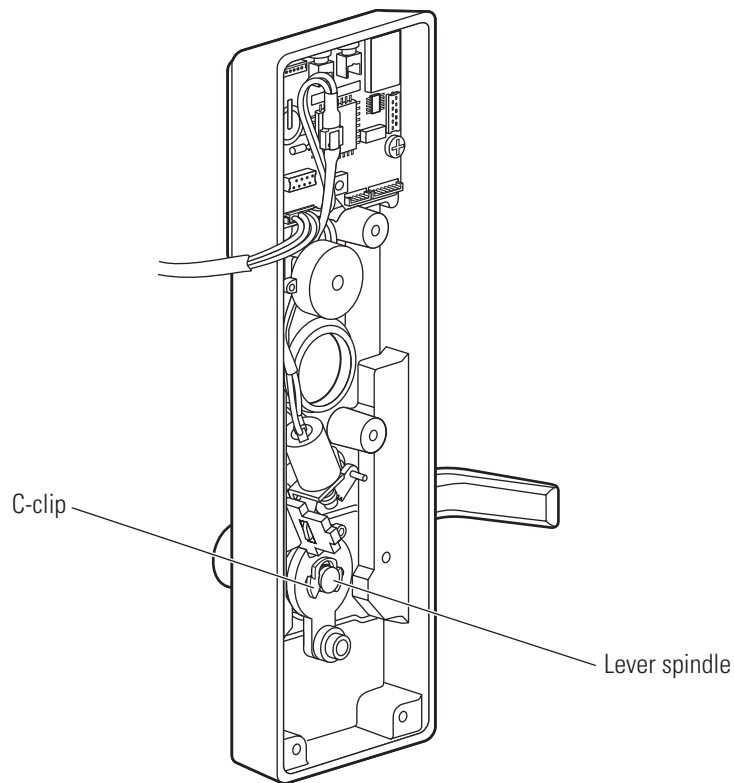

Figure 10.13 Removing and reinstalling the c-clip (B.A.S.I.S.escutcheon shown)
2. Remove the c-clip from the lever spindle. See Figure 10.13.
2. Reinstall the c-clip onto the lever spindle. The orientation of the clip does not matter. See Figure 10.13.